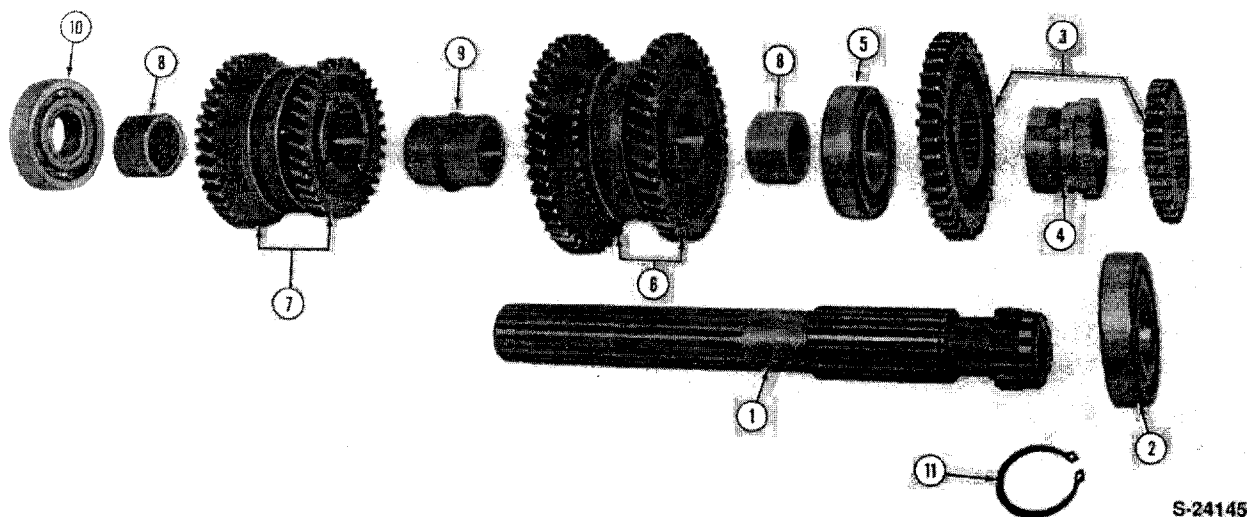

Figure 138
4. While supporting the main synchronizer gears and fixed range gears, withdraw the main shaft (1), from the case, Figure 138.
5. Remove the fixed range gears (3), spacer (4) and bearing (5), Figure 138.
6. Remove the two synchronizer assemblies (6 and 7), collars (8 and 9) and front bearing (10), Figure 138.